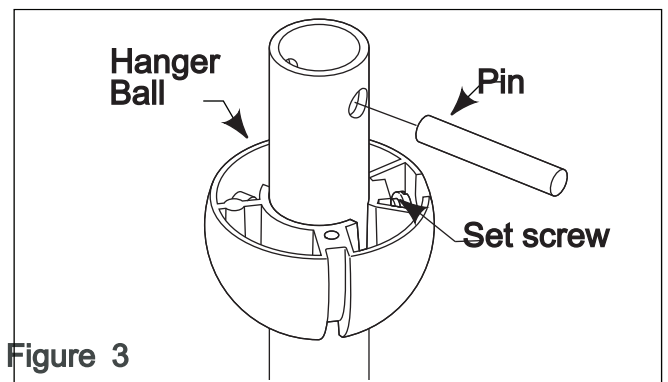

Figure 3
3. Loosen the set screws in the Hanger Ball assembly until the ball slides carefully down the downrod. Remove the Pin from the downrod. (Figure 3)